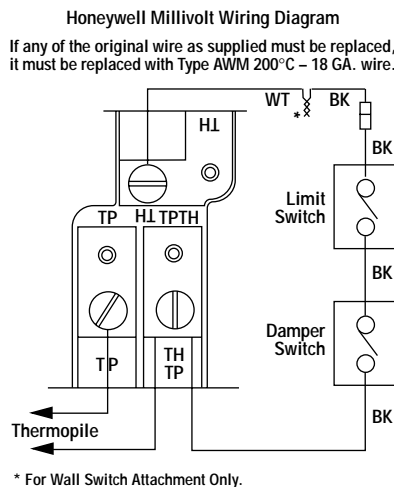
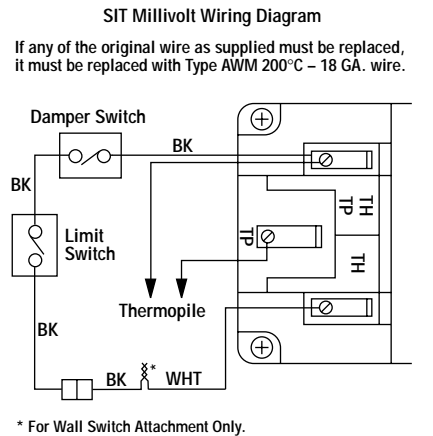

Figure 13
Figure 14
A. Millivolt Wiring – Units may be fitted at the factory with either a Honeywell millivolt gas control valve or an SIT millivolt gas control valve. Both valves have been tested with and approved for use with these appliances and are listed accordingly. Refer to *Figure 13* for wiring of Honeywell systems and *Figure 14* for wiring of SIT systems.
The gas valve has been set in place and has been pre-wired at the factory. No additional wiring is required unless the optional wall switch or optional remote control kit is to be installed. Locate the optional wall switch or optional remote control in the desired location and connect the millivolt wire (see *Figures 13 and 14*).